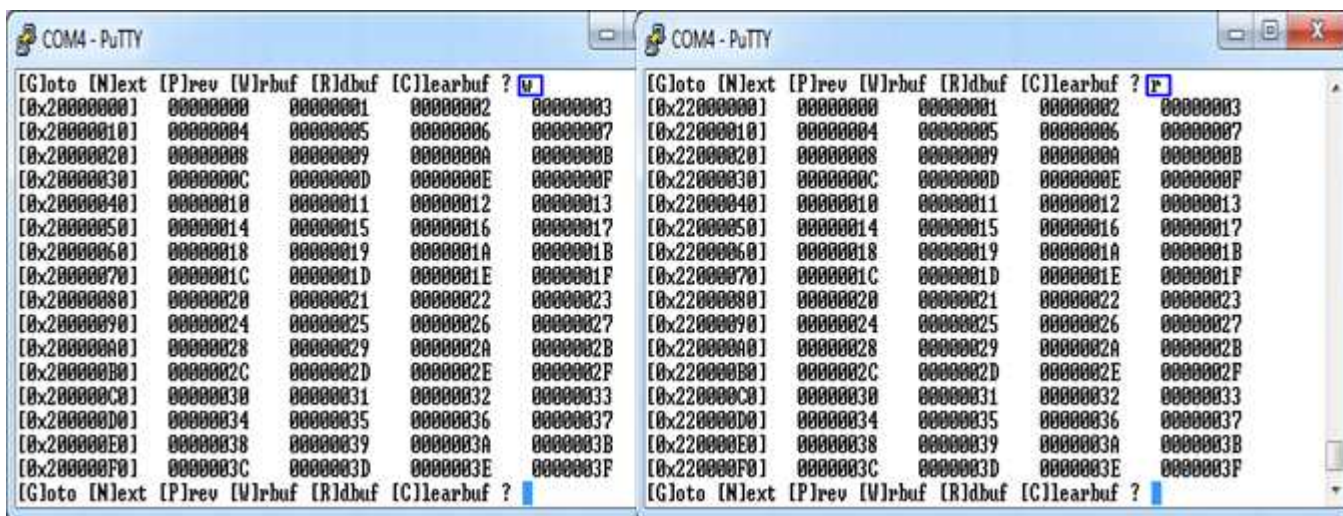

Figure 3-10 Read 256 byte data at top of write/read buffer
- 'W': this submenu is used to read 256 byte data at top of write buffer, as shown in Figure 3-10.
- 'R': this submenu is used to read 256 byte data at top of read buffer, as shown in Figure 3-10.